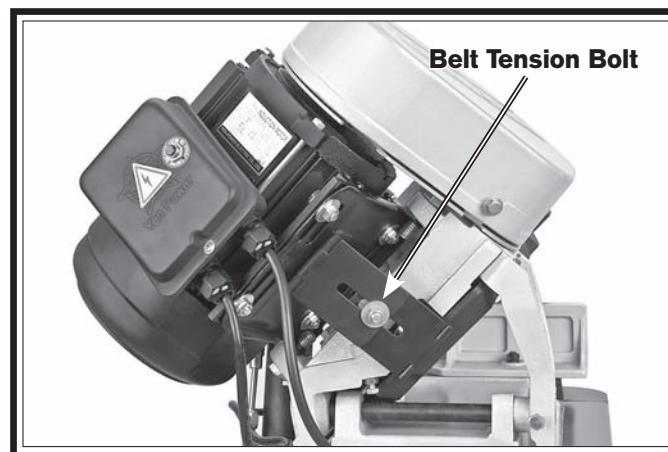

Figure 34. Motor tension bolt.
2. Open the belt cover, then loosen the belt tension bolt shown in **Figure 34** to allow the motor to pivot.